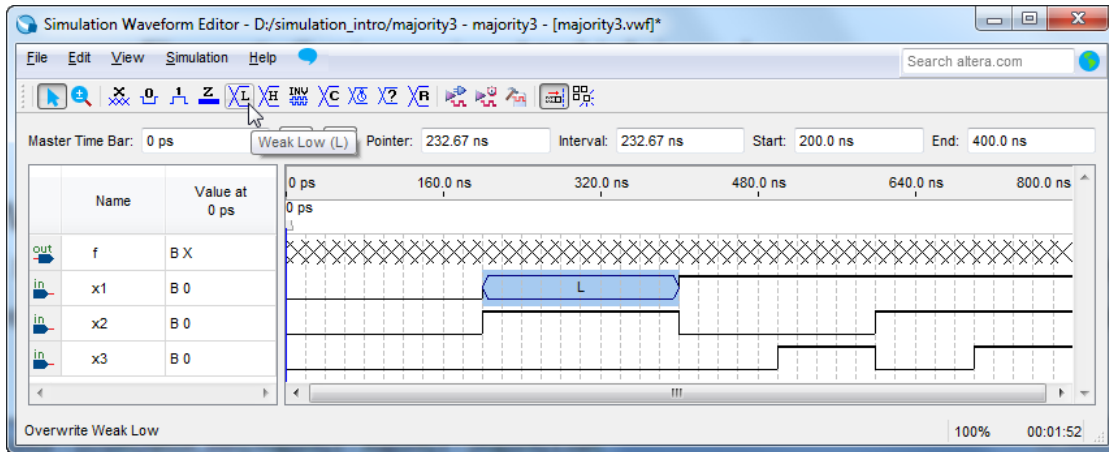

Figure 7. Changing the x1 signal to be weak low from 200 to 400 ns.
These tools are used to set a signal to the values Weak Low (L) or Weak High (H), which represents a circuit in which a bidirectional signal is pulled down or up by using a resistor. Examples are shown in Figures 7 and 8.